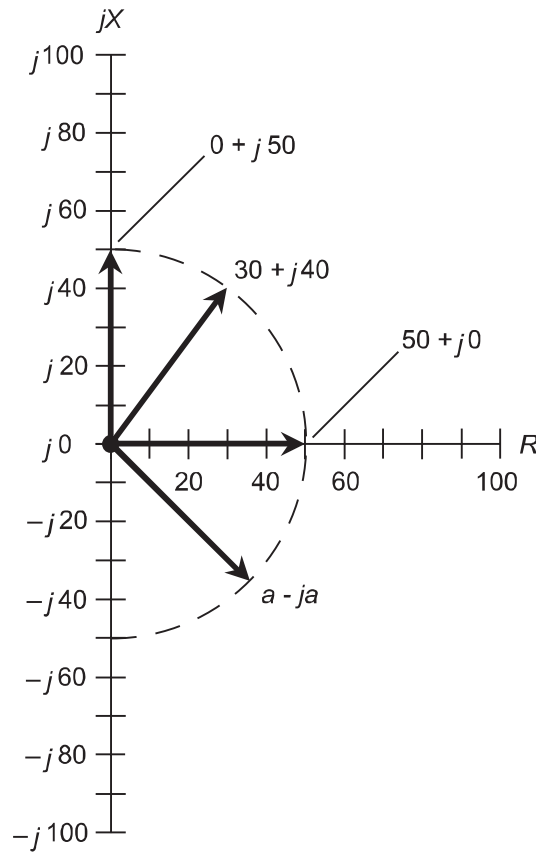

Fig. Test1-1. Illustration for Part One Test Questions 3 through 6.
3. What is the absolute-value impedance, Z , represented by the vectors shown in Fig. Test1-1?
4. The vector pointing straight up in Fig. Test1-1 represents
5. Consider the vector $a - ja$ in Fig. Test1-1. What is the approximate value of the constant, a ?
6. In Fig. Test1-1, which, if any, of the vectors represents a pure resistance?